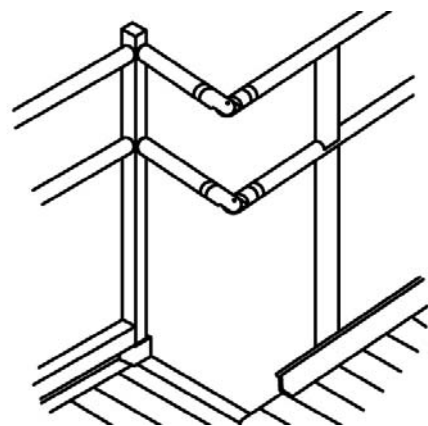

FIG 38
- viii) Insert cut tube into place and tighten all set screws on ring joiners and adjustable elbows (FIG 38).